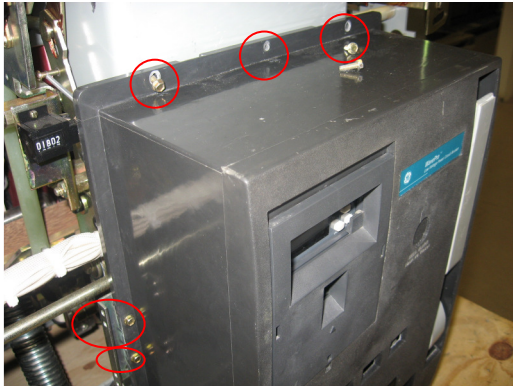

Figure 2
1. Loosen the 6 screws ( 5/16" hex head ) securing the front cover to the frame (shown in Figure2) Save the screws for reinstalling of the cover later.